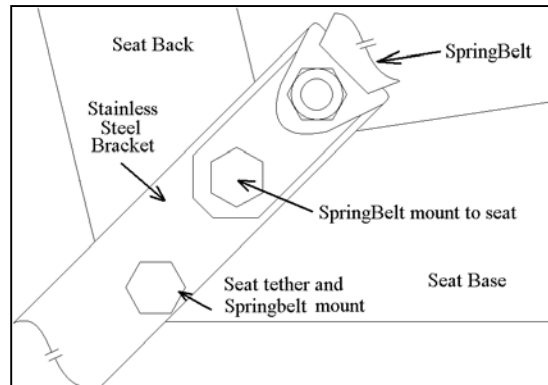

Figure 3.
2) TWO HOLE MOUNT (refer to Figure 3).